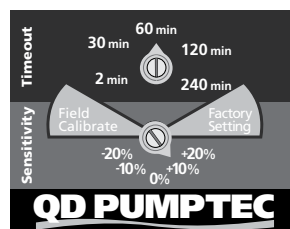

Figure 3
10. Adjust sensitivity setting if desired. The "Factory Setting" position should be used for most applications. (see Calibration and Sensitivity Adjustment section and figure 3 for more information).
The sensitivity adjustment knob pointer may be moved from the "Factory Setting" position to point at a positive percentage number. Turning the knob (figure 3) to +10% will make the unit more sensitive by moving the 70% factory underload setting up +10% to 80%. The QD Pumptec will now trip when the motor load drops to 80% of motor SFL.
If pumping a low yielding well into a restriction, it may be necessary to adjust the sensitivity of the QD Pumptec. To increase the sensitivity, turn the sensitivity knob to the positive numbers on the dial. Placing the knob on +10% will cause the unit to trip at 80% of SFL load instead of 70% of SFL when in the "Factory Setting" position (figure 3).